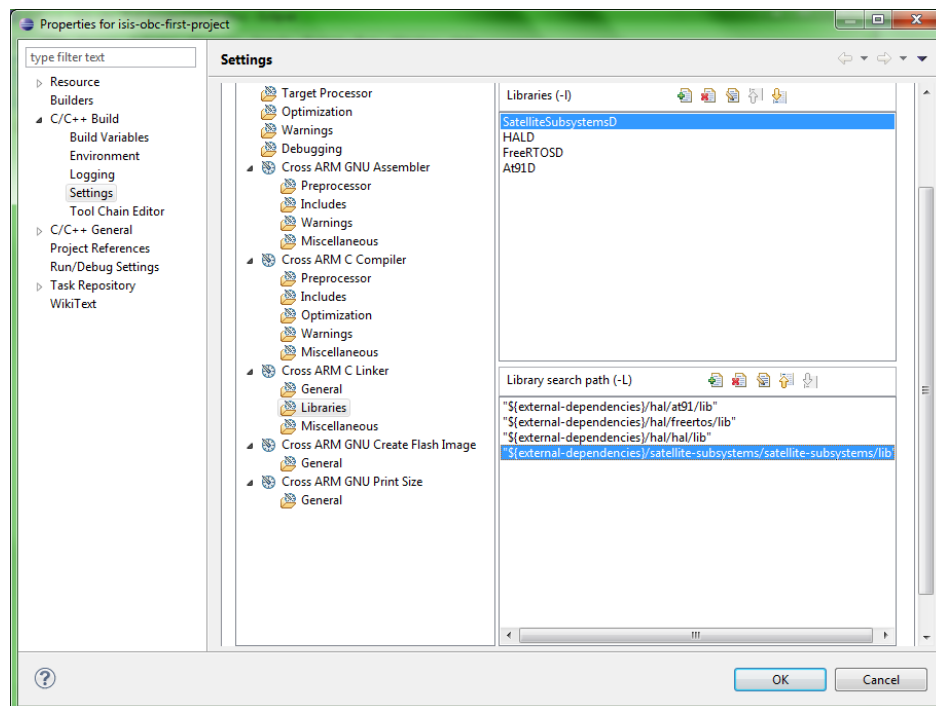

Figure 18: Add the library to the linker settings
3. Add the library to the linker settings: Select *Cross ARM C Linker* > *Libraries*. Add the library name with a capital D at the end to the *Libraries* list. Add the path to the *lib* directory to the *Library search path* list. See Figure 18.